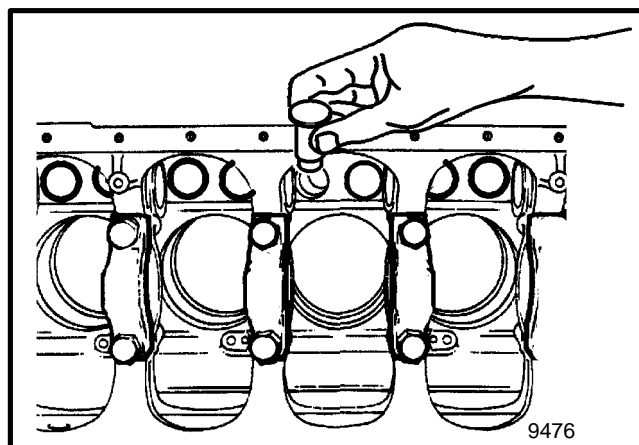

FIGURE 27. REMOVING THE CAM FOLLOWERS
5. Remove the cam followers as shown in FIGURE 27.